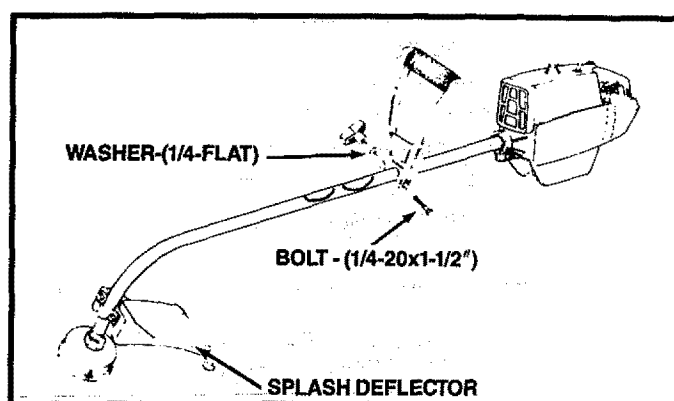

Figure 5
- c. Make sure the splash deflector is aligned toward the engine as shown in Figure 5.
4. ASSIST HANDLE — Figure 5
- a. Align the assist handle on the drive shaft housing above the decal(s), making sure the handle curves back toward the engine. Figure 5.
- c. Install the assist handle bolt, washer, and knob as shown in Figure 5.